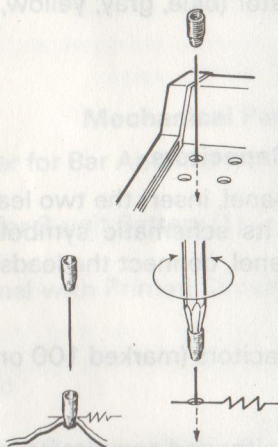

FIGURE 3
- ☐ From the top side of the cardboard panel, install 50 spring terminals into the 50 large, numbered holes; the smaller end of the spring should be at the bottom. To make the installation easier, use the pointed end of a pencil to push the spring through the holes and twist slightly. (See Figure 3.)